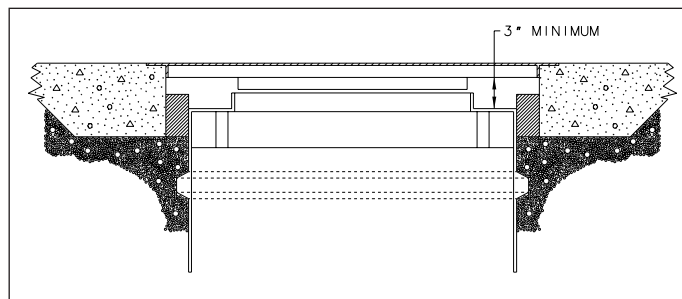

FIGURE 4-2
4.5.1.1. Provide a minimum 3-inch clearance between any load-bearing item (for example, the concrete pad/street-box frame) and the wet well top (See FIGURE 4-2 which depicts a foam barrier.)